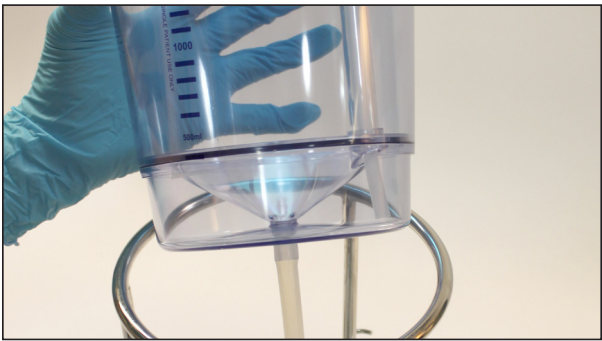

Figure 2. Place canister into stand.
7. Place canister into stand (fig 2). Make sure it is seated properly and not tilted.